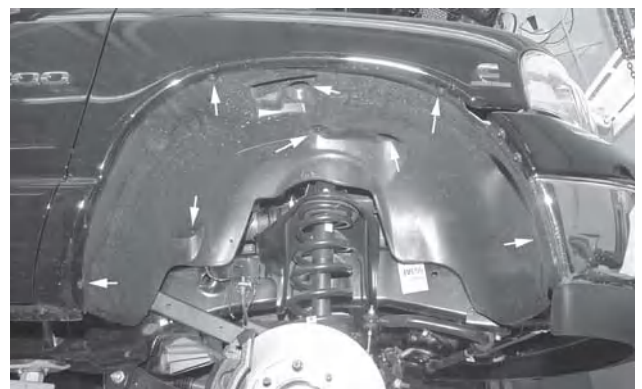

Fig. 21d
Attach the ABS cable to the wheel well. Slide the wheel well into place. Install Eight (8) cap screws to secure the wheel well to the fender. Repeat for otherside wheel well. (see figure 21d)